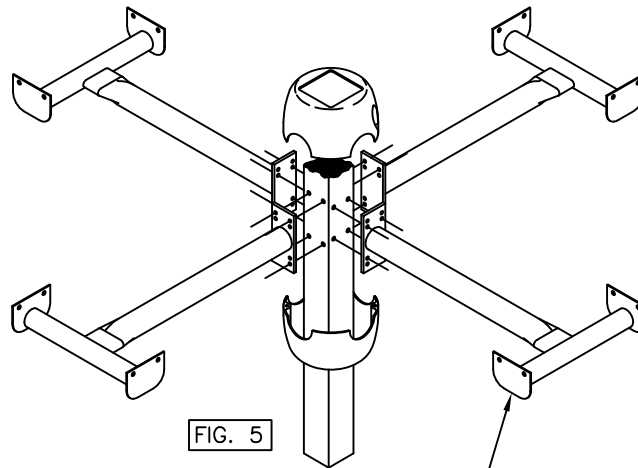
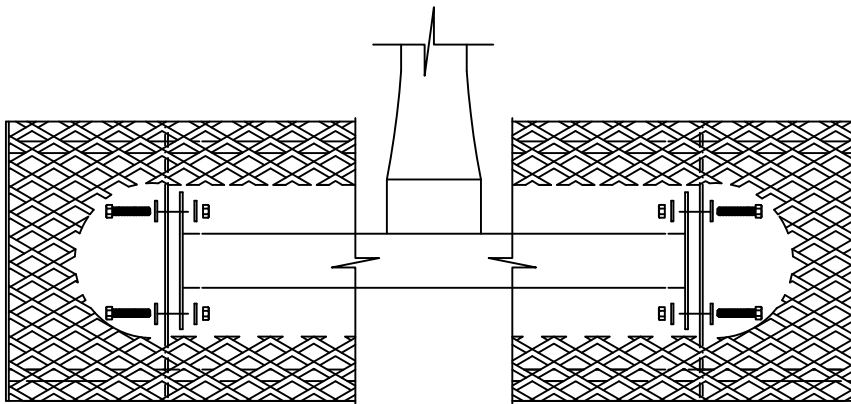

FIG. 5
FIG. 6
Separate the bolt cover assembly and allow the bottom half to slide down the post, keeping top half suspended. Use care not to scratch post and bolt covers. Attach each (C1) seat assembly arm to the inground post as shown in FIG. 5. Use four, per each seat assembly arm, (J) and (K) using two (O) and one (Q) per (J). Raise bottom half of bolt cover and secure to top half with two (P) machine screws.
Attach all three/four (B-) seats (see FIG. 5 NOTE) to the end of each seat assembly arm. Align the seat's mounting brackets to the outside of the seat assembly (C1), FIG. 6. Use four, per each seat, (H) and (N) using two (M) and one (R) per (H).